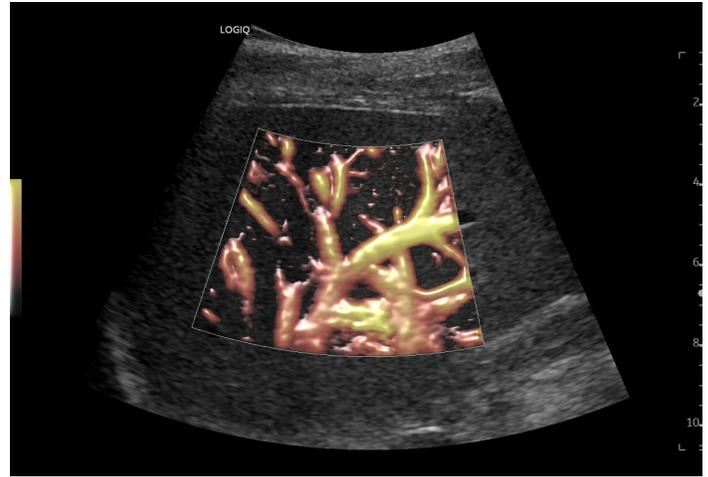

Figure 16. Liver perfusion using MVI with Radiantflow.
- Vessel patterns in a superficial liver lesion (Figure 16)